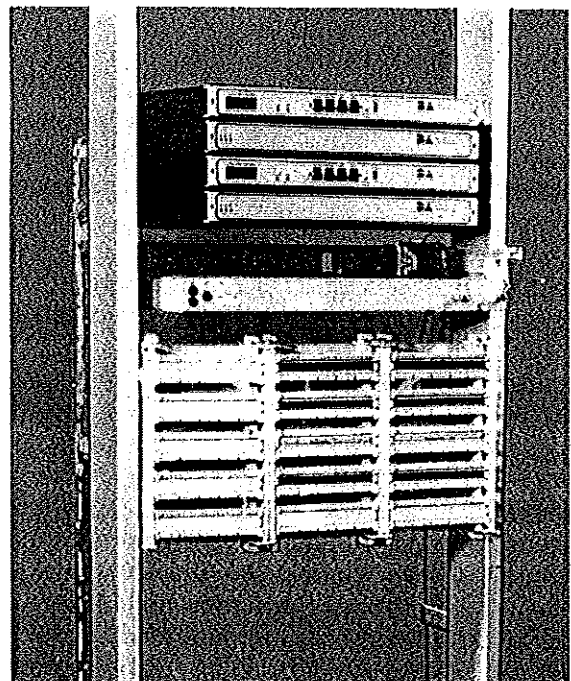

Fig. 10 - Announcer Distribution System
4.12 The Digital Announcer Distribution System (figure 10) allows up to five Digital Announcers (20 messages) to be connected to a maximum of 375 audio circuits per connector bank. The connector banks are constructed with Northern Telecom BIX modular cross-connect wiring blocks, which serve as a termination point between equipment interfaces and Digital Announcers. (Consult the manufacturer for assistance in selecting the Distribution System which best matches your specific application.)